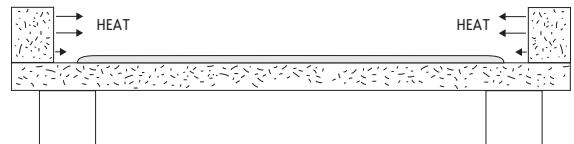

FIGURE 6
2. Create a perimeter wall of hard brick around the outer edges of the piece. Upon heating, the hard brick will absorb heat. Upon cooling, this absorbed heat will radiate back toward the glass and prevent its edges from cooling too rapidly. (Figure 6)